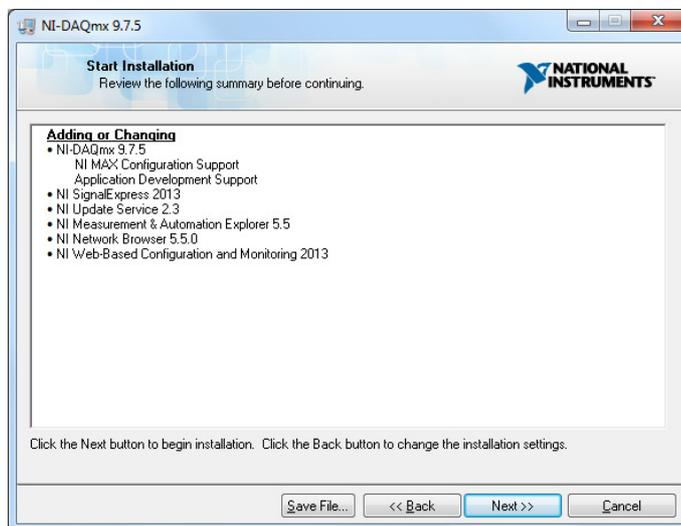
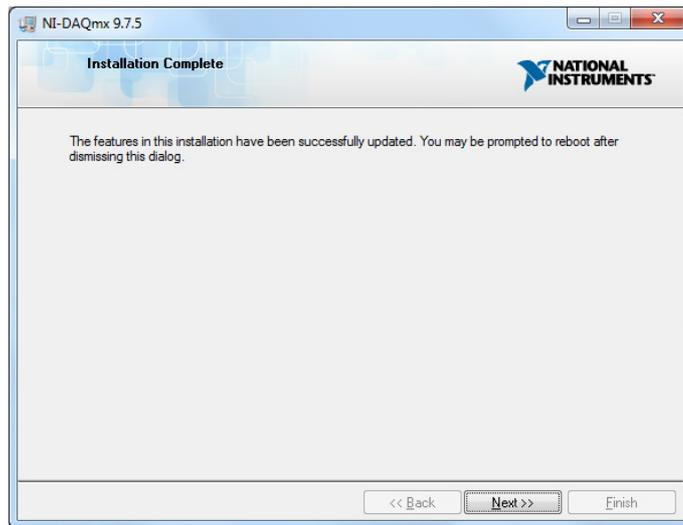
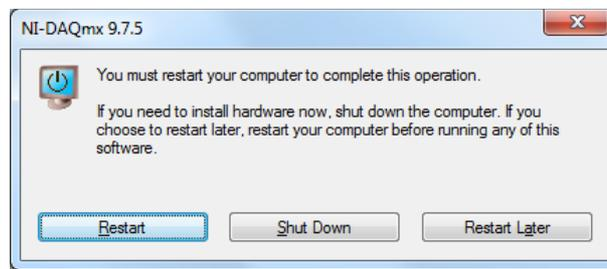

Figure A.7 Installation summary prior to start of installation.
Figure A.8 Completion window.
Figure A.9 Reboot request.
- Click `Next` at the summary page (Figure A.7) to begin installation and a window containing two progress bars will appear whilst the software is being installed (Figure A.8).
- After the installation is complete (Figure A.8) the PC might need to be rebooted (Figure A.9). This ensures that the drivers will be available when the support unit is connected to the PC.